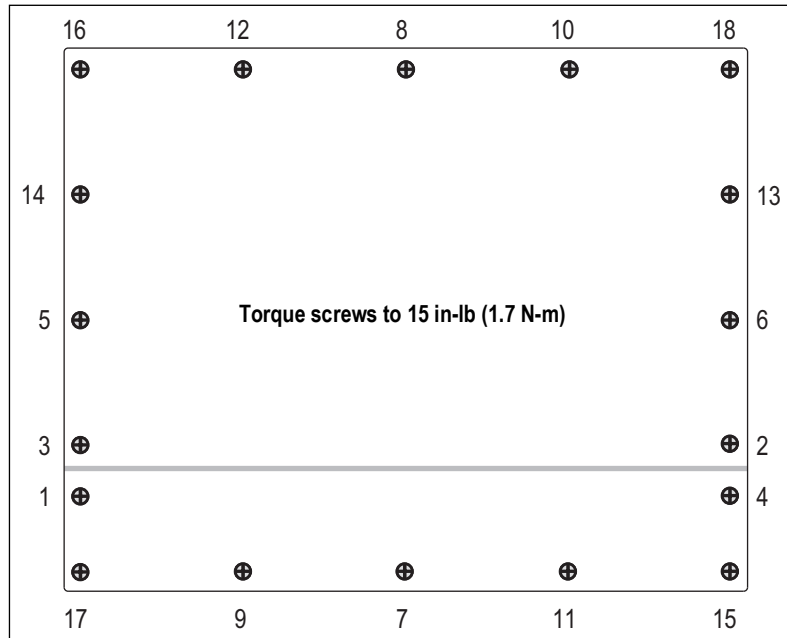

Figure 2-8. 920i Integrator Enclosure Backplate
3. Use the torque pattern to prevent distorting the backplate gasket (Figure 2-8). Torque screws to 15 in-lb (1.7 N-m).